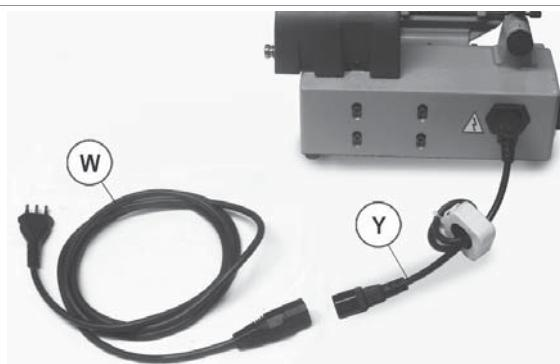

Fig. 13
- 1) Connect the cable with ferrite (Y) to the key-cutting machine (Fig. 13).
- 2) Connect the power cable (W) to the cable with ferrite (Y).